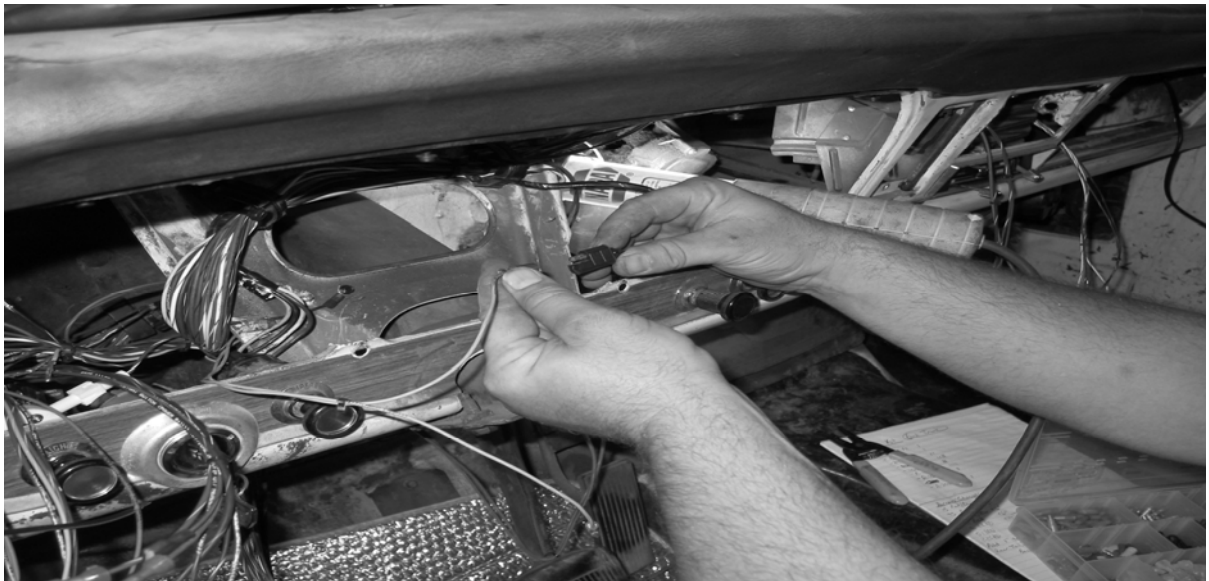

Figure 7-24 Cargo Light Connections
- 7.12.1** Locate #993 Light Green/Yellow (Cargo Lamp Switch Power) wire and #994 Light Green/Yellow (Cargo Lamp) wire. Connect to the Cargo Lamp Switch pigtail with one bullet male connector and one female bullet connector. (This switch is not polarity specific) **See Figure 7-24.**